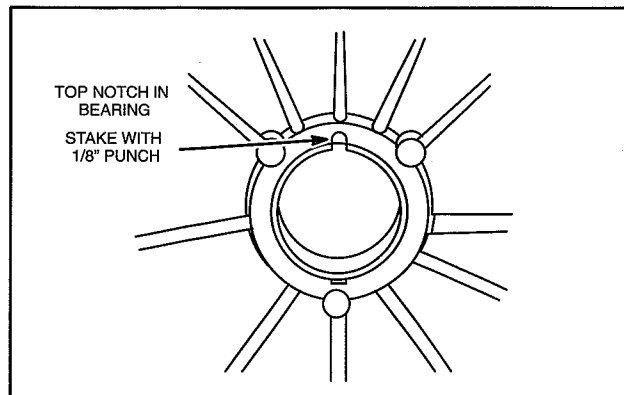

Fig. 8 – Stake Bearing
4. Stake bearing in top notch with 1/8" round pin punch to prevent bearing from turning, Fig. 8.
4. Grind off the taper, approximately 3 mm (1/8"), from one end of new roll pin as shown, Fig. 8.